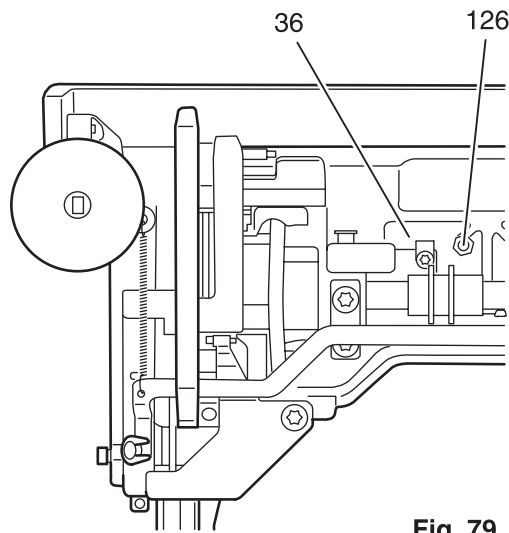

Fig. 79
- Unscrew and remove fastening screw 126 on circuit board 36 using the torx offset screwdriver TX 15 (fig. 79).